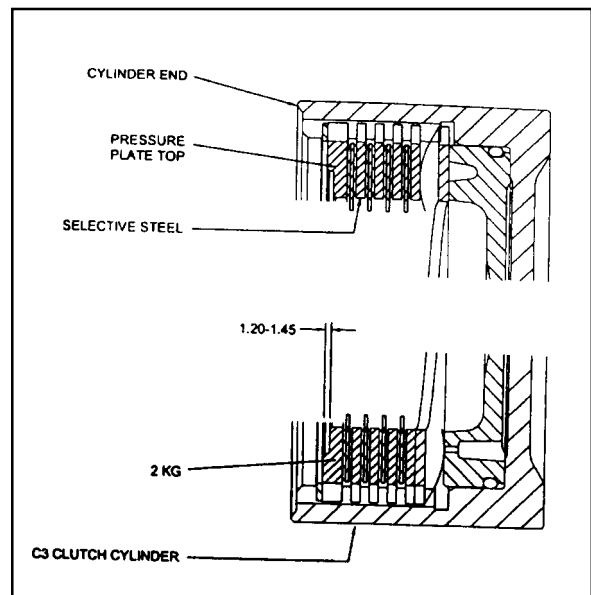

Figure 8.29 - Typical C3 Clutch Assembly Clearance
13. Check the C3 clutch clearance (refer to figure 8.29) using special tool No.0555-331900 in the following manner (weight only).